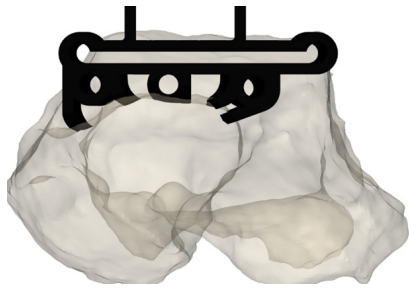

Fig. 12
1.14 An AP radiograph may be used to confirm medial-lateral and coronal angle positioning of the talus PSR. Refer to the Surgical Plan for detailed patient specific information. (Fig. 12)